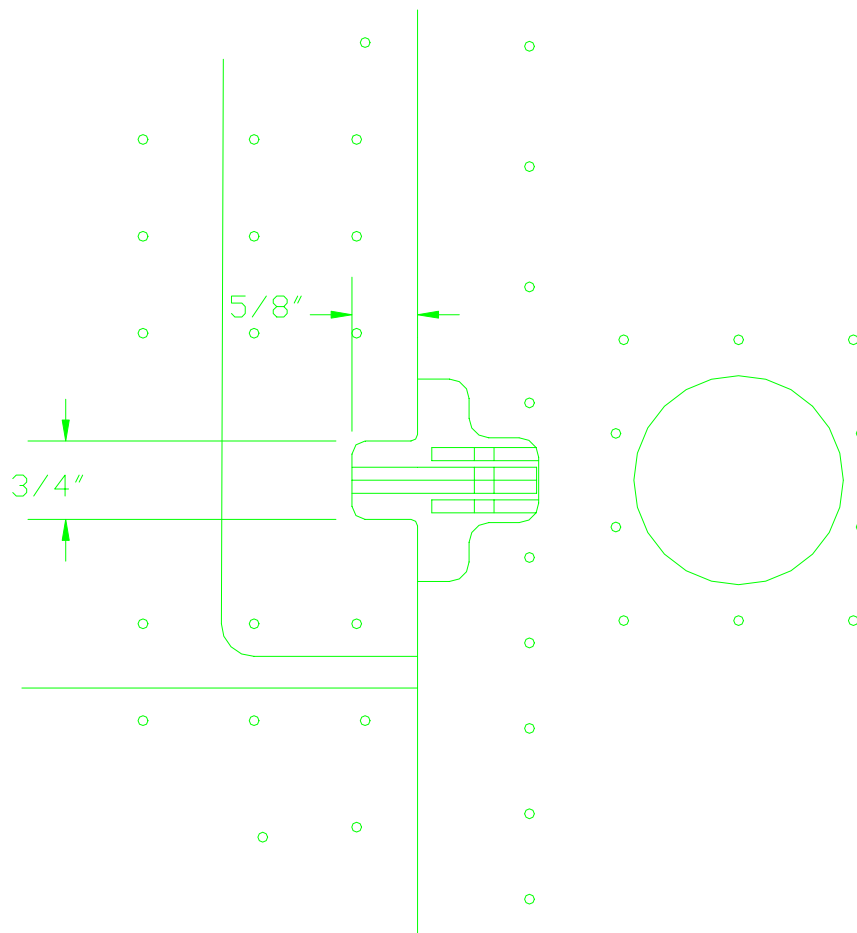

FIGURE 37
- 119) Trim the spar caps and fin spar at the rudder horn location to allow 25° plus of rudder travel in each direction. Figure 37. The dimensions giving in Figure 37 are approximations.